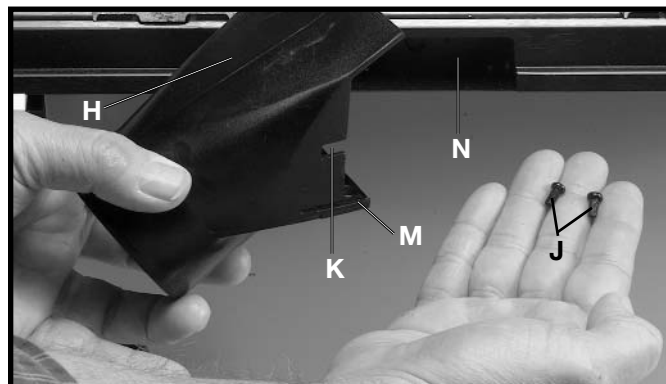

Fig. 8
4. If you will be connecting your Router/Shaper to a dust collection system, assemble the dust chute (H) Fig. 8, to the rear of the table by fastening bottom lip (M) of dust chute to sheet metal plate (N) using two M4x8mm cheese head screws (J). **IMPORTANT:** Make certain the slot (K) in dust chute fits snugly around table lip (L). Also make certain lip (M) of dust chute, is underneath sheet metal plate (N). **NOTE:** If a dust collection system is not going to be used, do not attach the dust chute.